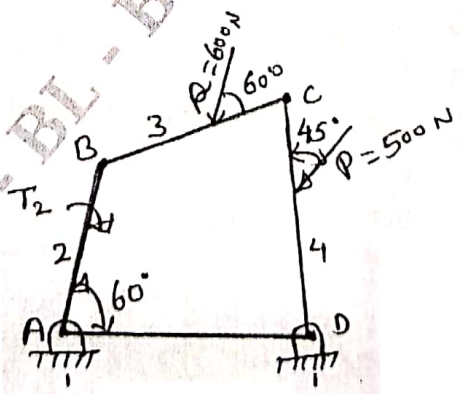

Fig. Q3 (b)
- b. A four bar mechanism under the action of two external forces is shown in Fig. Q3 (b). Find the required input torque on the link AB for static equilibrium. The dimensions of the links are AB = 50 mm, BC = 66 mm, CD = 55 mm, CE = 25 mm, CF = 30 mm, angle BAD = 60° and AD = 100 mm.